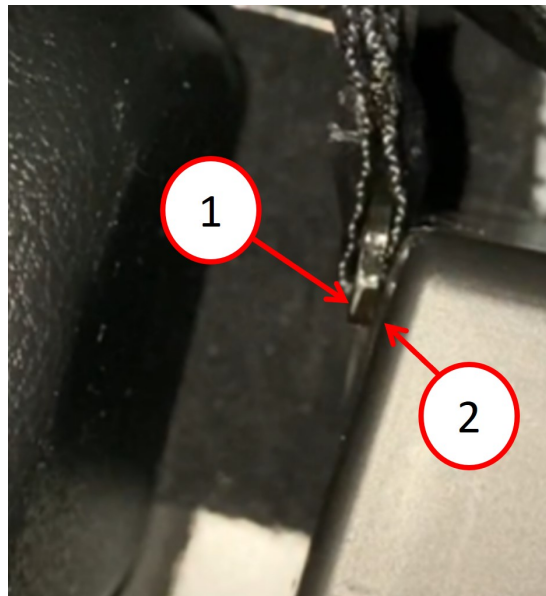

Fig. 3
2. Pull back the seat flipper panel and inspect both the left and right sides (Fig. 2) , to see is if the metal strap bracket is contacting the cargo tub (Fig. 3) .
3. Is the metal strap bracket is contacting the cargo tub on the left, right or both sides (Fig. 3) ?
1. Using a suitable tool, slowly push the metal strap bracket outward, to create clearance away from the cargo tub (Fig. 3) **do not bend the metal strap bracket more than 5 mm (0.19 in.)**. Repeat this step for the left, right or both seats.